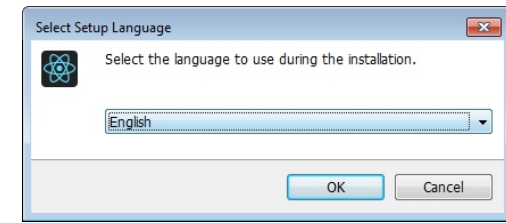

Figure 2 Select a Installation Language
Step 2: Select installation language as shown in **Figure 2**.